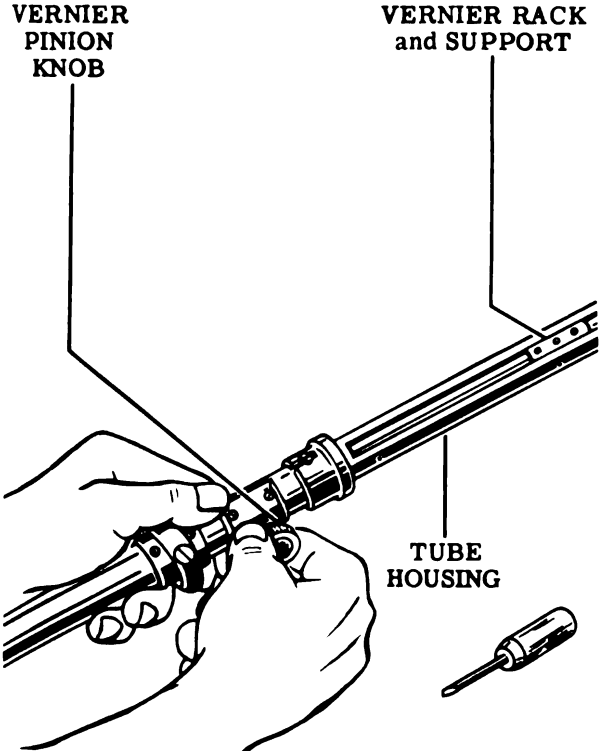

Figure 13
27. Rotate the vernier pinion knob until the rack teeth of the vernier rack and support are clear of the vernier pinion. See Fig. 13.